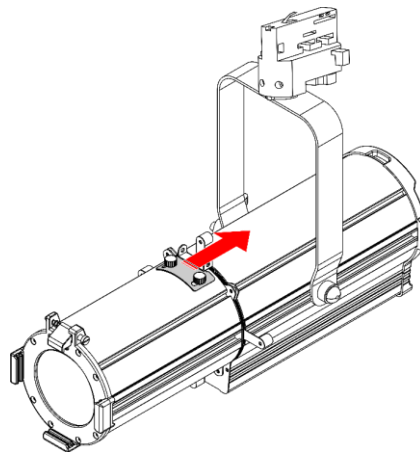

Fig. 25
- 06) Slide the **gobo slot cover plate (11)** towards the **gobo holder (13)** (see Fig. 25).